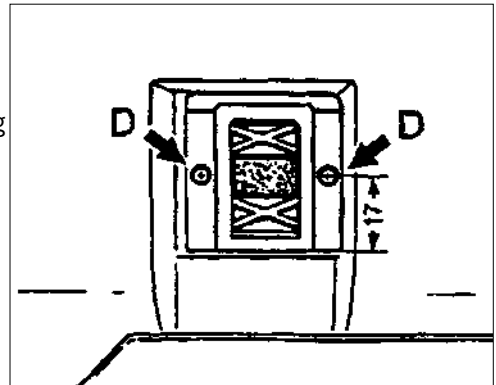

Figure 24
- If securing element is loose install two additional screws. Drill two holes 2mm in diameter, by 7mm in depth, through the securing element into the roof trim panel (Figure 24, arrow D). Secure the elements with two sheet metal screws (Torx T20).